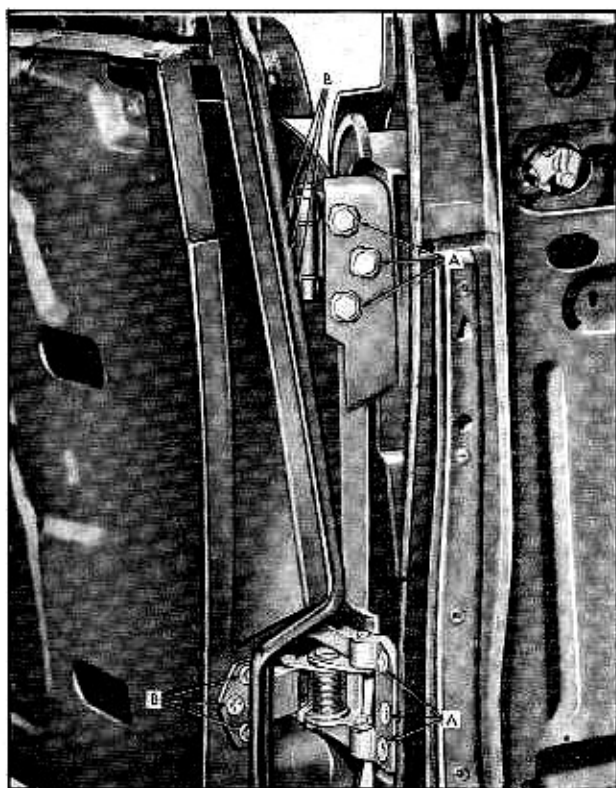

Fig. 3-7 Hinge Attaching Screws
2. For up and down adjustment, loosen bolts "A", on center body pillar. Adjust door as required and tighten bolts. Fig. 3-7.